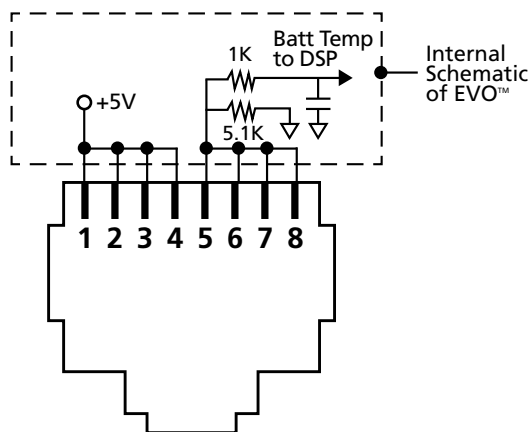

Fig 3.12 Pinout of RJ-45 Jack marked "Battery Temp Sensor" on the front panel of EVO™ [6 in Fig 2.1].
RJ-45 Plug [2 in Fig 2.5(a)]: The RJ-45 Plug is required to be plugged into the RJ-45 Jack marked "Battery Temp Sensor" on the front panel of EVO™ [6 in Fig 2.1]. Pinout of the RJ-45 jack is shown in Fig 3.12.
Pinout of this RJ-45 Jack [marked "Battery Temp Sensor" on the front panel of EVO™ [6 in Fig 2.1]] is shown at Fig 3.12:
- Connect to any of Pins 1/2/3/4 [Refer to Fig 3.12 for pinout of RJ-45 Jack. Pins 1 to 4 are internally shorted]
- Connect to any of Pins 5/6/7/8 [Refer to Fig 3.12 for pinout of RJ-45 Jack. Pins 5 to 8 internally shorted]